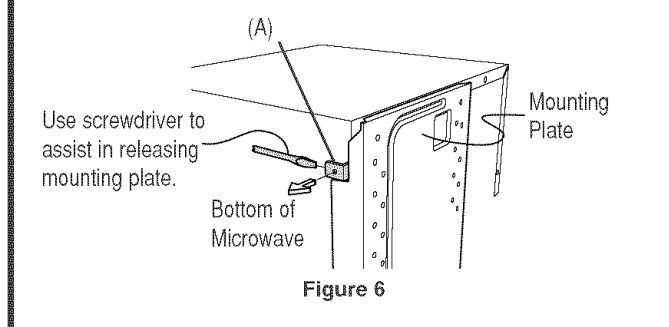

Figure 6
- (A) Release mounting plate by pulling out the lever that is on the bottom of the oven. See Figure 6.